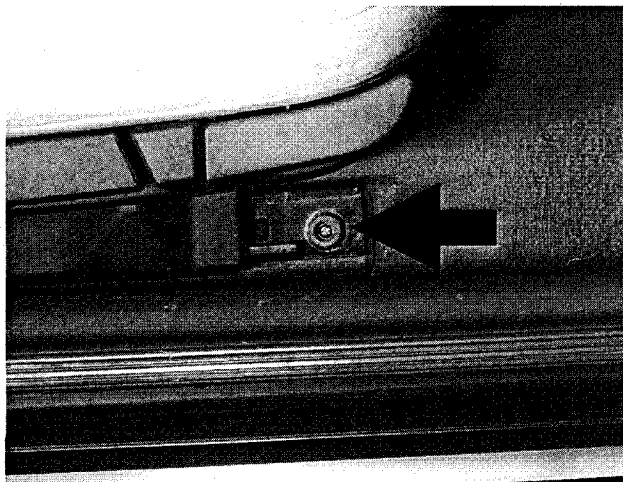

Fig. 2. Front seat front mounting nut (arrow).
4. Remove plastic caps from front mounting nuts, and then remove mounting nuts. See Fig. 2.